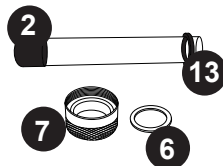

Figure 6
- Remove the quartz seal compression nut (7) by turning it **counterclockwise**, Figure 3. Use a pair of channel-lock pliers if needed, Figure 5. You will notice that there is a stainless steel compression washer (6) that slides over the quartz tube. Save the washer (6) for later use, Figure 6. There is also a black seal ring (13), grasp the black seal ring; slowly and carefully remove the quartz tube.